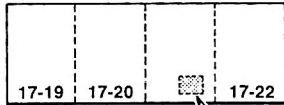

**Figure 1**
**YD-8 Board (See Figures 1 and 2.)**